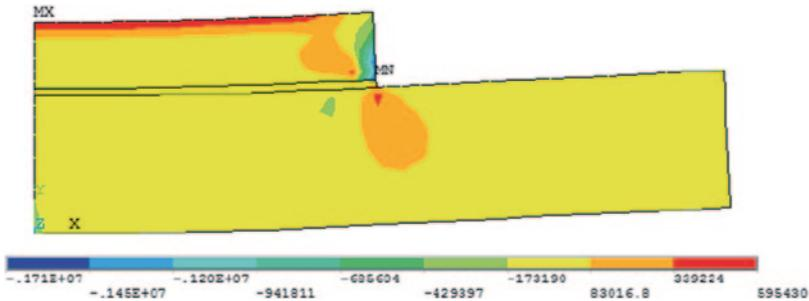

Fig. 9.54 Contour plot of the peeling stress due to thermal loading at load step 1, substep 10
- The contour plot of normal stress in the y -direction (peeling stress) appears, as shown in Fig. 9.54.